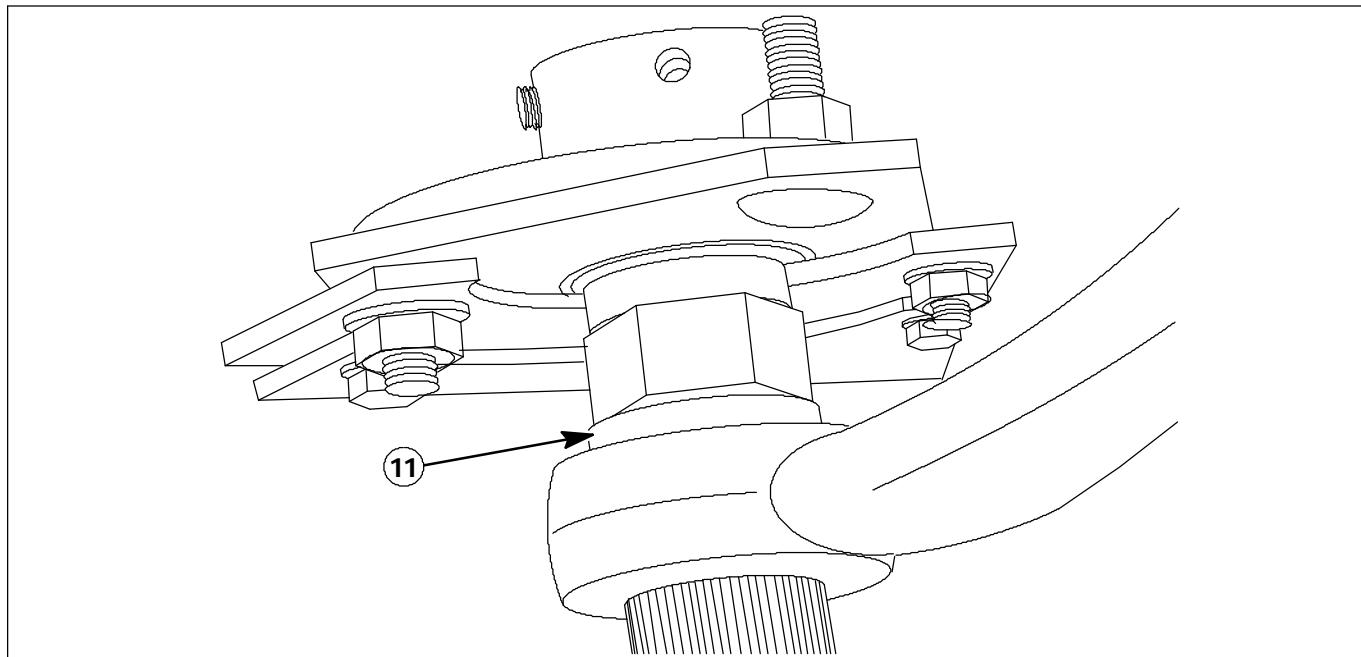

FIG. 2 Mounting Rotated Bearing and Existing Parts
4. Reassemble new steering gear assembly with new washer (11). Tighten to 129-168lbs. of torque. (Refer to FIG. 2)